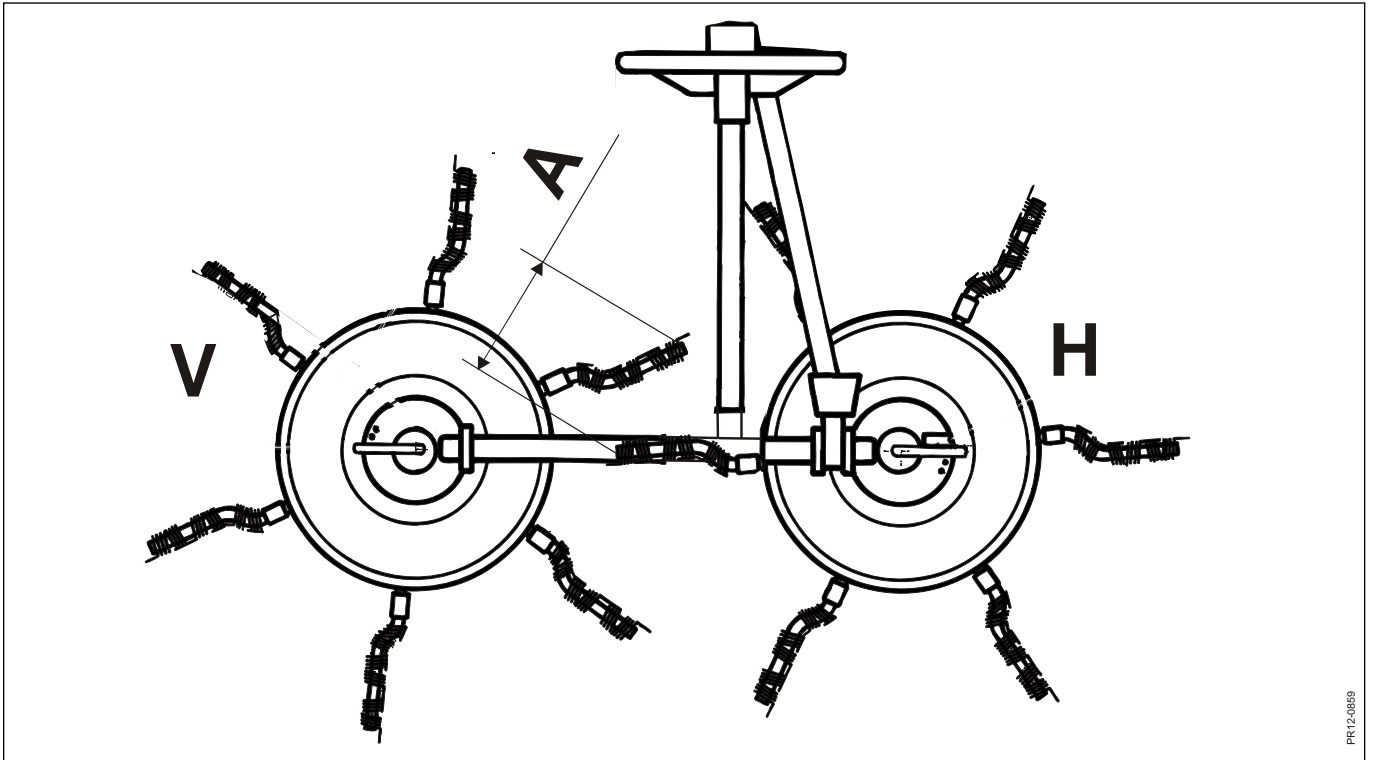

Fig. 3-30
**Fig. 3-30** The distance A must always be 400-500 mm when the rake arm on the right rotor H is situated just below the cross tube. The distance A is measured from the middle of the tube to the middle of the tube.